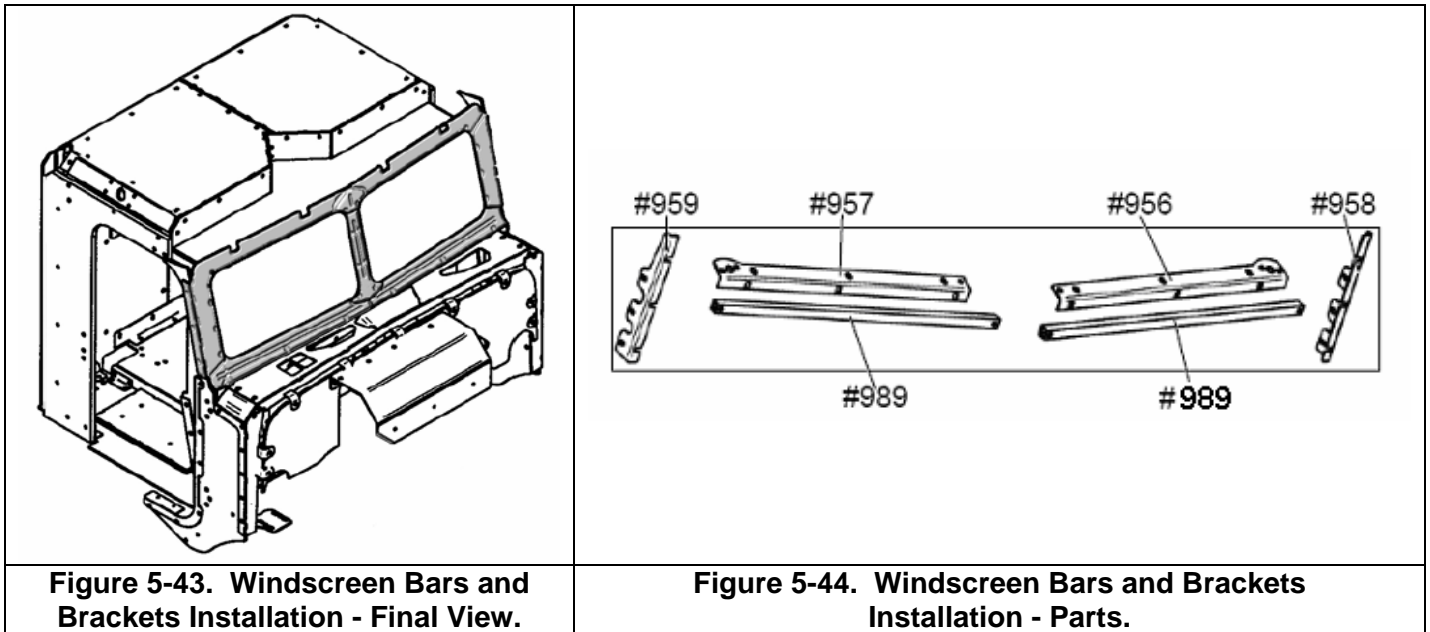

**Figure 5-41. Roof Kit Installation -
10. Position spacer #954 against the A-Pillar armor panel #251. Place the top A-pillar plate #254 on top of the spacer. Insert the forward fastener through the forward hole in #954, through the large-diameter hole in the spacer #954 and engage with the uppermost threaded insert in the A-pillar armor panel #251. Insert the two aft fasteners through the upper A-pillar plate and engage with the side armor panel #213 as shown in Figure 5-41.